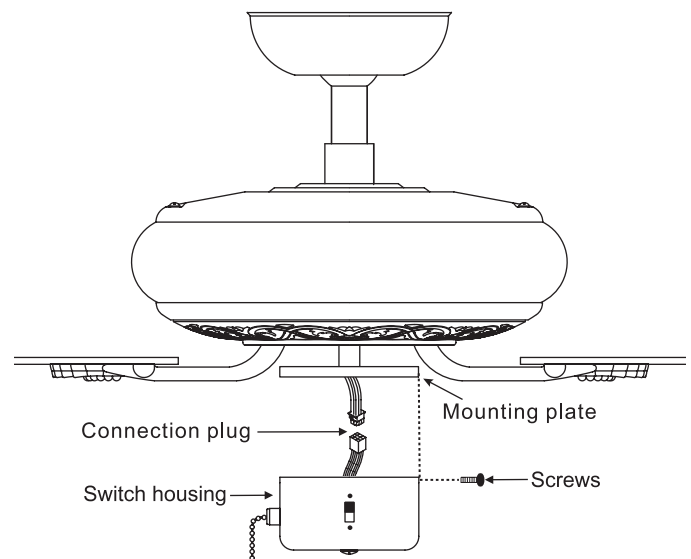

Figure 18
2. While holding the switch housing under your fan, snap together the wire connection plug. (Figure 18)
3. Raise the switch housing to the mounting plate until the holes in switch housing and mounting plate line up. Reinsert screws to secure in place. (Figure 18)